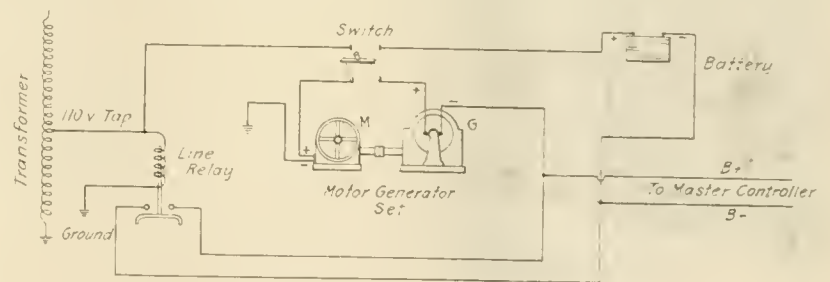

FIG. 16. ARRANGEMENT FOR CHARGING BATTERIES.
A. The connections are shown by Fig. 16. A tap is taken from a transformer, usually of approximately 110 volts, and it is connected through a line relay to ground. This tap is also connected to one side of a double pole single throw switch. When this switch is closed, the 110 volts is connected to the motor of the motor generator set. The motor operates and will run whenever power is on the transformer. The other side of this switch is connected in the generator circuit—the generator, as mentioned above, supplies current to the battery, charging same. It is noted that the negative side of the generator is connected to the contacts on the line relay which are closed whenever the main transformer is energized. The object of this line relay is to prevent the battery feeding back into the generator, running the generator as a motor when the power is cut off